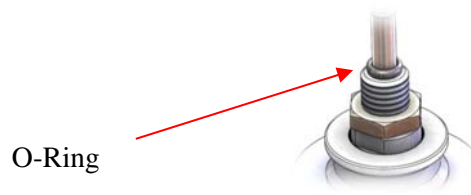

Figure 59: Lift Lever O-ring
10. Lubricate and place the seal adjustment nut o-ring over the lift lever rod. See Figure 59. If the valve has an open lift lever configuration, this step is omitted since there will not be an o-ring used.